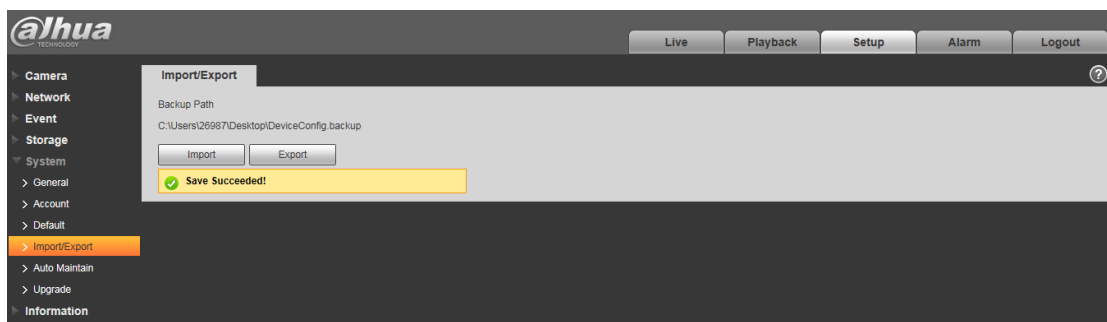

Figure 13-4
4) Click 'Import' and choose the Config backup file you want, it will import the setting of IP camera, As shown in figure 13-4, save succeeded.